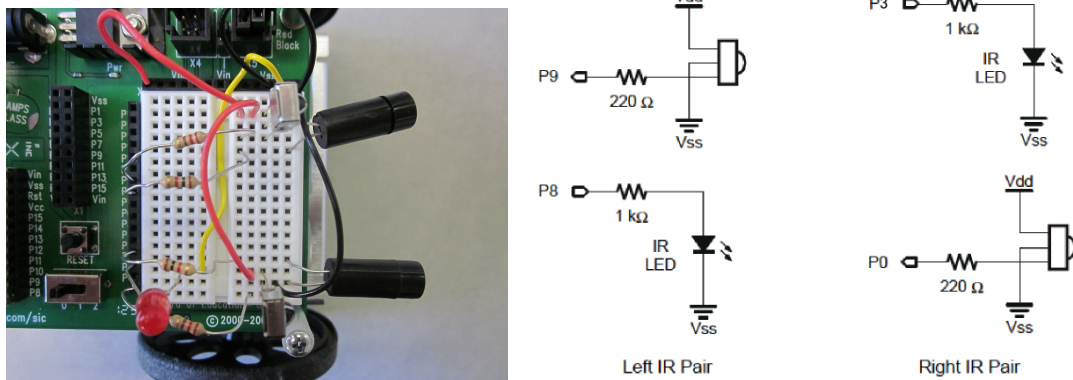

Figure 26: Infrared sensor wired to bread board (left) and wiring schematic (right).
5. Build the circuit shown in Figure 26. Note that the small triangle symbol is the symbol for a diode. Recall that a *diode* is essentially a one-way resistor, meaning that it acts like a resistor when current flows in the direction of the point of the triangle, but allows no current flow from the the other direction. The infrared headlight is essentially a diode, and therefore it is crucial that it is installed in the correct orientation. The correct orientation is shown in the Figure as well.